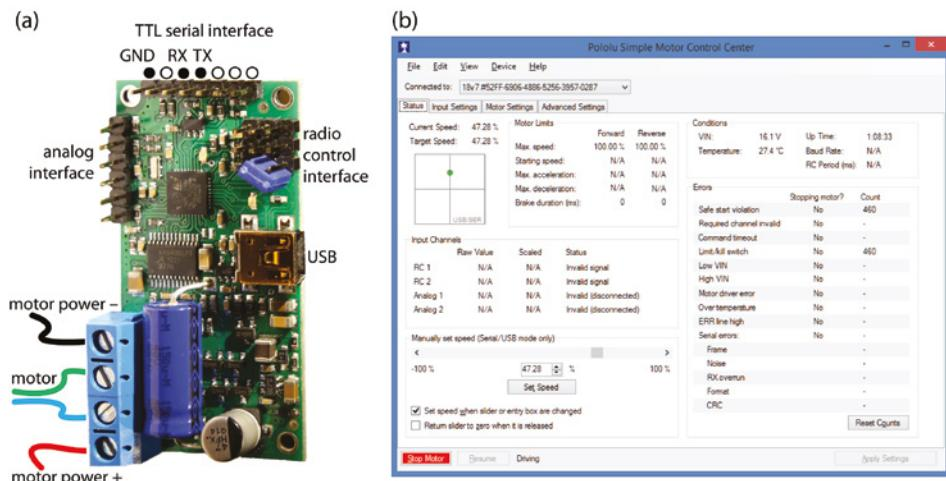

Figure 9-5: (a) The Pololu Simple Motor Controller, and (b) the associated motor configuration tool
The Pololu *Simple Motor Controller* family (\$30–\$55), illustrated in Figure 9-5(a), supports powerful brushed DC motors with continuous currents of up to 23A and maximum voltages of 34V. It supports USB, TTL serial, analog, and hobby radio-control (RC) PWM interfaces. The controller uses 3.3V logic levels, but it is also 5V tolerant.
Despite its name, this is an advanced controller that can be configured with settings such as maximum acceleration/deceleration, adjustable starting speed, electronic braking, over-temperature threshold/response, etc., which makes it a good choice for larger-scale robotic applications. The controller can be configured using a Windows GUI application, as illustrated in Figure 9-5(b), or by using a Linux command-line user interface. The Windows configuration tool can also be used to monitor motor temperature and voltage conditions and control the speed settings, braking, PWM, communications settings, and so on, over USB, even while the motor is connected to the Beagle board with a TTL serial interface.
The Simple Motor Controller can be configured to be in a serial ASCII mode, whereupon it can be controlled using a UART device from the Beagle board with minicom. For example, with ASCII mode enabled and a fixed baud rate of 115,200 (8N1) set in the Input Settings tab (see Figure 9-5(b)), the board can connect directly to the motor controller and issue text-based commands to control the motor, such as v (version), F (forward), B (brake), R (reverse), GO (exit safe-start mode), x (stop), and so on. See the comprehensive manual for the full list of commands (tiny.cc/beagle902).